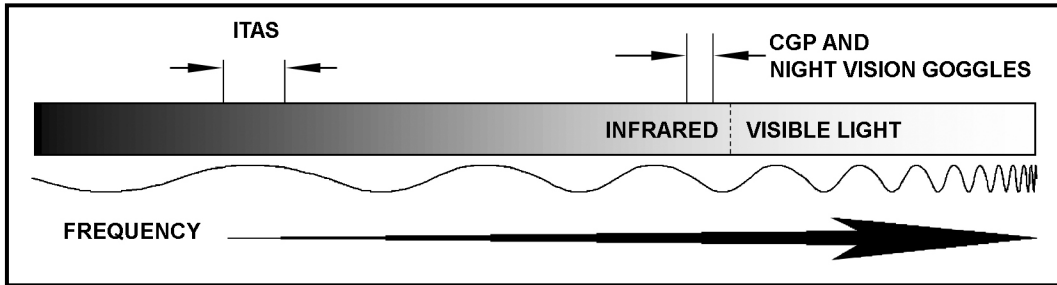

Figure C-2. Infrared band.
a. The ITAS operates using frequencies in only a small part of the IR band (Figure C-2, page C-2). Other weapon systems operate in this same area, such as the Javelin and Dragon, which means the gunner should be able to see anything with the Javelin and Dragon that he can see with the ITAS.